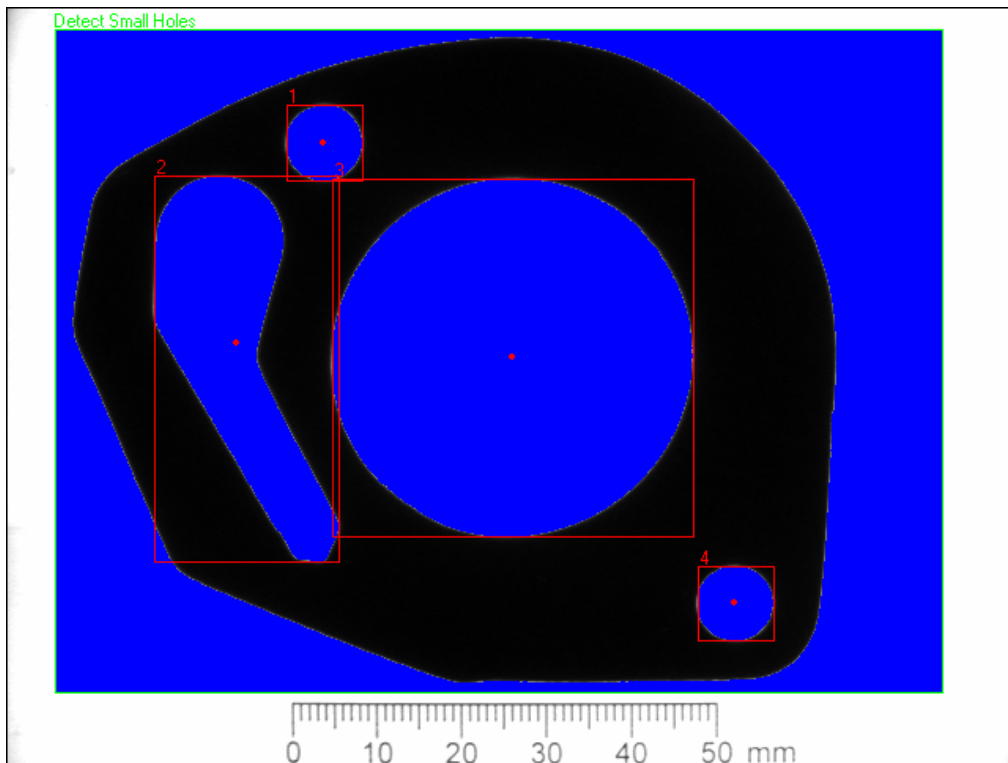

Figure 3-2. Defining the Region of Interest
4. Using the default **Rectangle Tool**, draw a region of interest around the entire gasket, as shown in Figure 3-2.